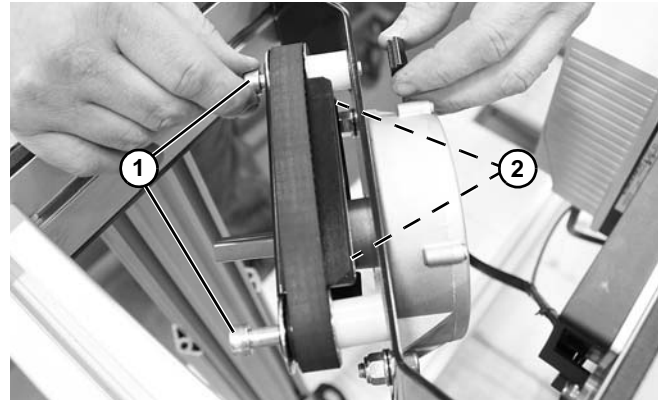

**Figure 154**
2. Remove guide track assembly (**Figure 154, item 1**).